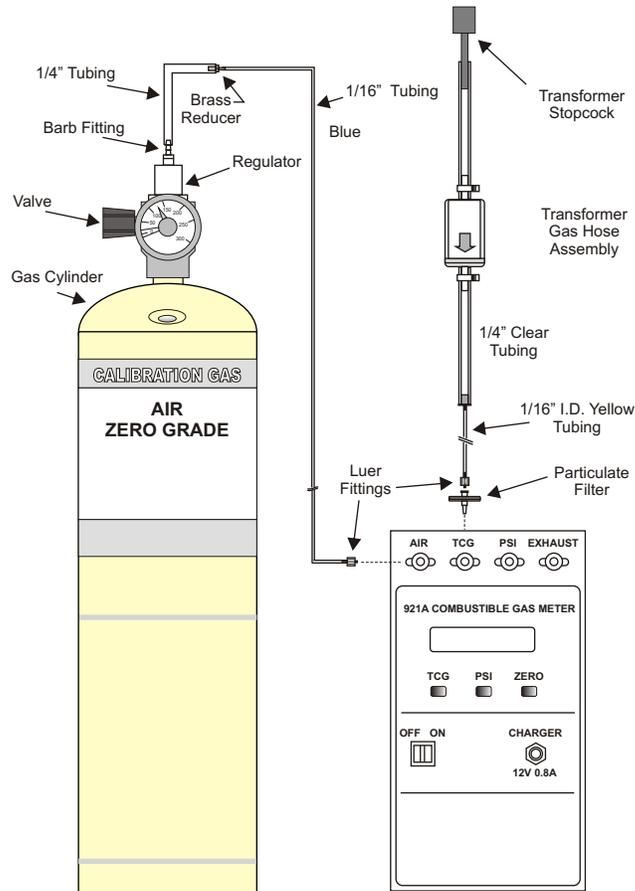

Figure 3.4: TCG Measurement, 1 to 5 PSI
1. Make sure the Air Zero Grade is connected to the ZERO-AIR port on the 921A as described in Figure 3.4.